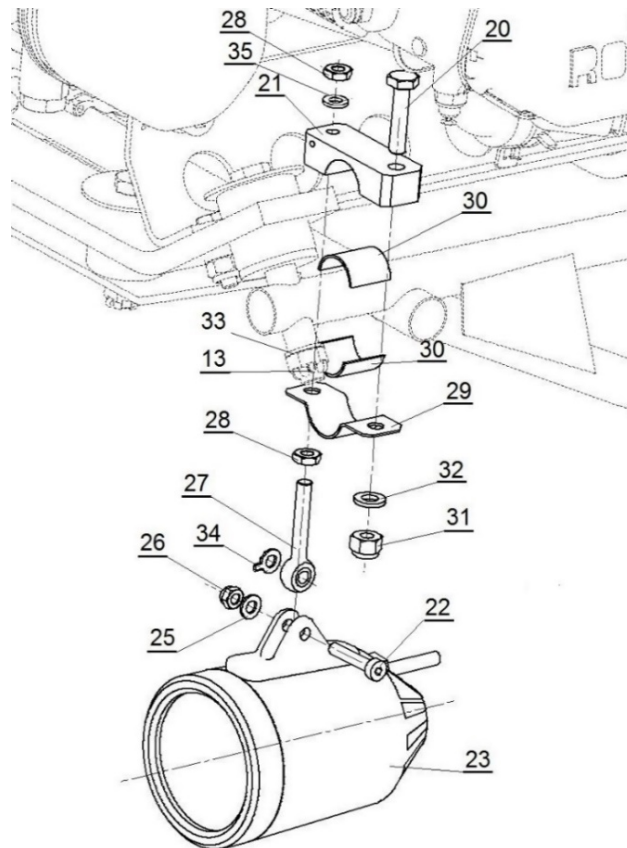

Figure 2 - Mounting of the New landing light Trail Tech D112-SX
- 1.10 Install the New landing light (23) with the new holder (21, 29, 30) supplied by the Czech Sport Aircraft using connecting parts (20, 31, 32, 22, 25, 26, 27, 28, 35), see Figure 2.